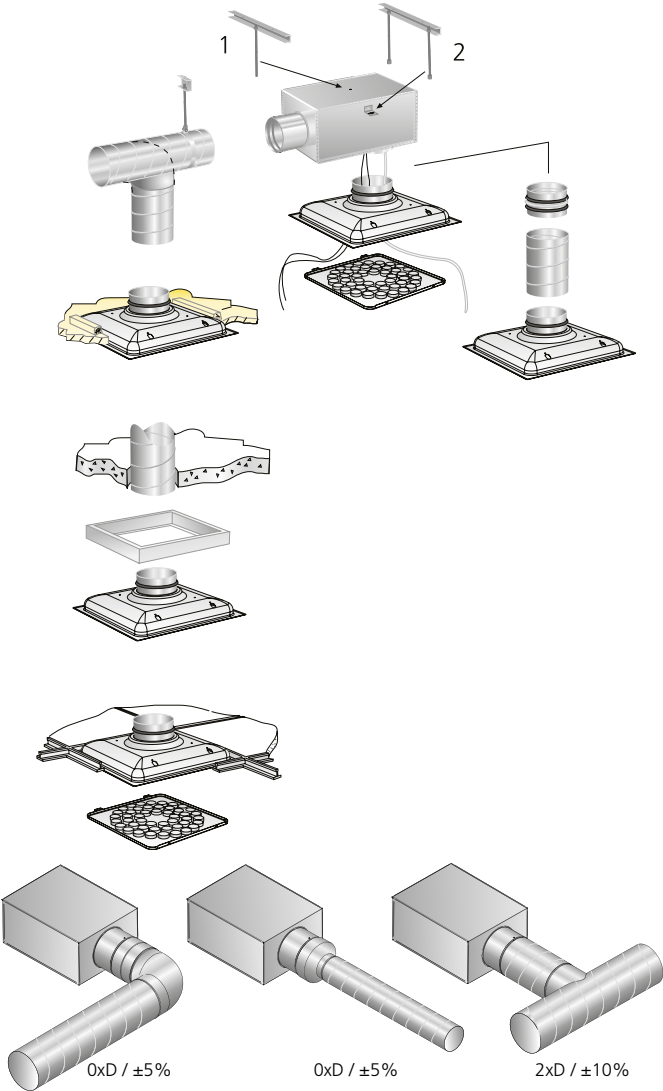

Figure 2. Installation options for the ALS commissioning box. See the REACT ALS product sheet for installation options with active commissioning box.
- The distance between the commissioning box and the air diffuser can be increased up to 500 mm with a circular duct, without having to lengthen the measuring tubes and damper adjustment cords. See figure 2.
- Measurement accuracy and straight section requirement before the commissioning box. See Figure 2.
- Figure 2 shows a bend, a change in dimension and T-piece.